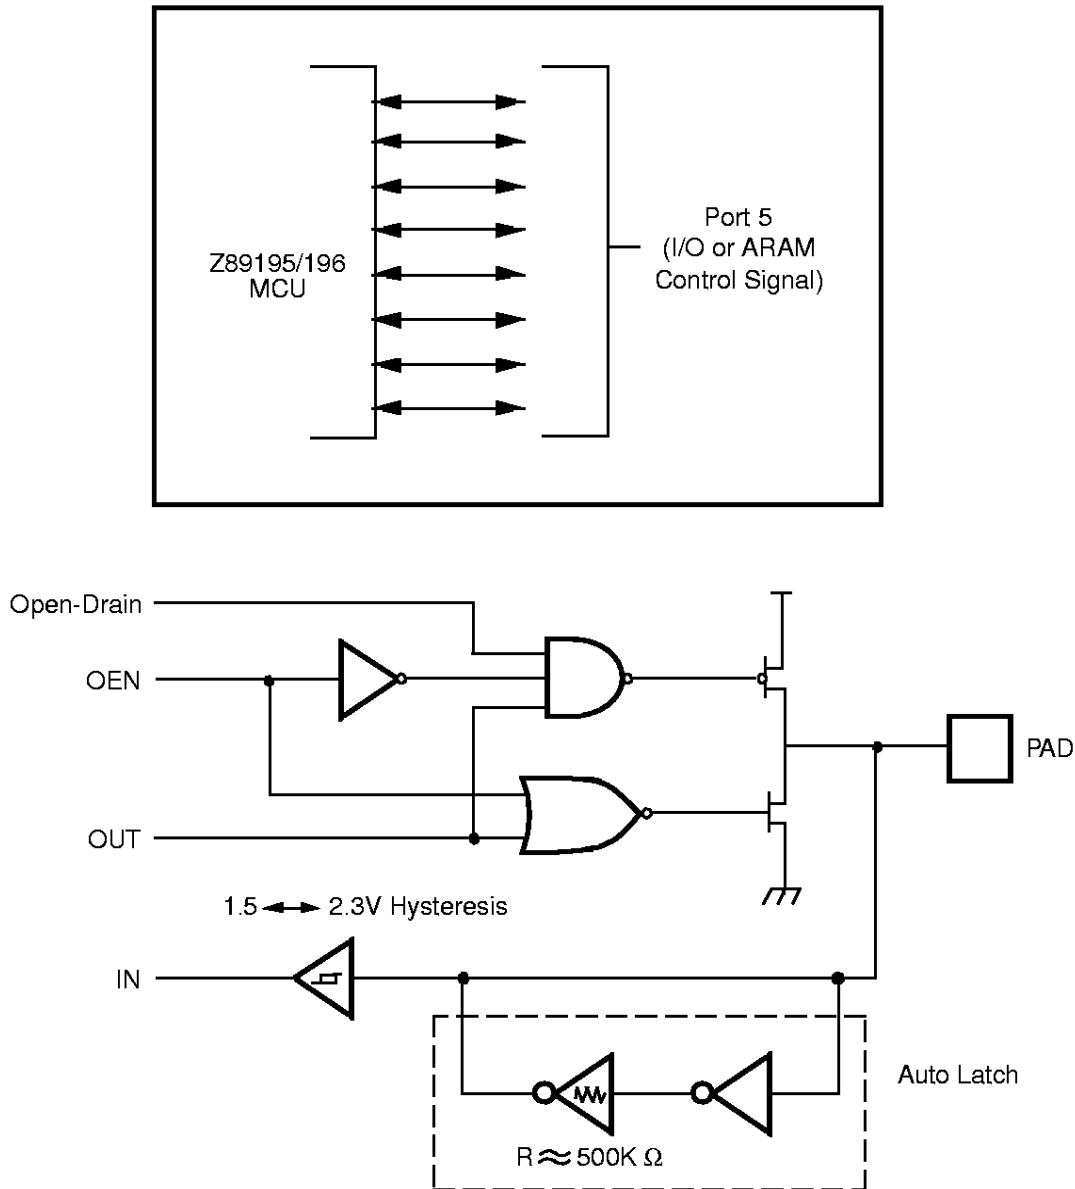

Figure 16. Port 5 Configuration
**Port 5 (P57–P50).** When the Z89195's ARAM Controller function is enabled, a portion of Port 5 (P57–P52) is used as external ARAM control signals. Refer to the section on ARAM Controller for details. Otherwise, Port 5 is an 8-bit, bidirectional, CMOS-compatible I/O port (Figure 16). These I/O lines are configured under software control independently as inputs or outputs. The input buffers are Schmitt-triggered. Bits programmed as outputs can be globally programmed as either push-pull or open-drain.